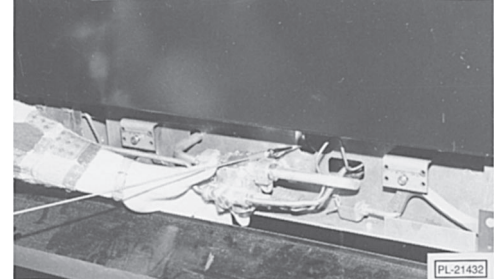
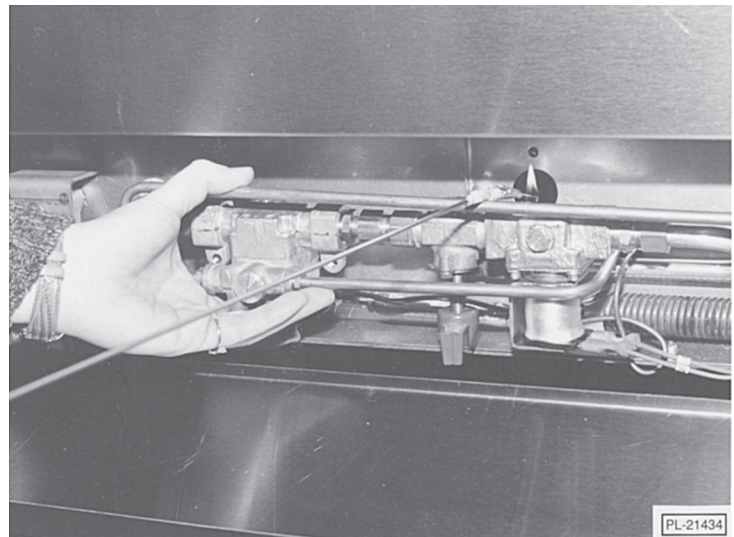

Fig. 12
Fig. 14
2. Light pilot by depressing the reset button located behind the kick panel (Fig. 12). Light pilot and continue to hold reset button in for 1 minute. If pilot fails to light, turn main gas supply "OFF" and wait 5 minutes before repeating Step 2.
3. Light oven pilot by depressing the reset button (see Fig. 12) and, using a taper, ignite the pilot. Hold reset button in for 30 seconds or until pilot remains lit (Fig. 14). Turn gas valve back "ON".